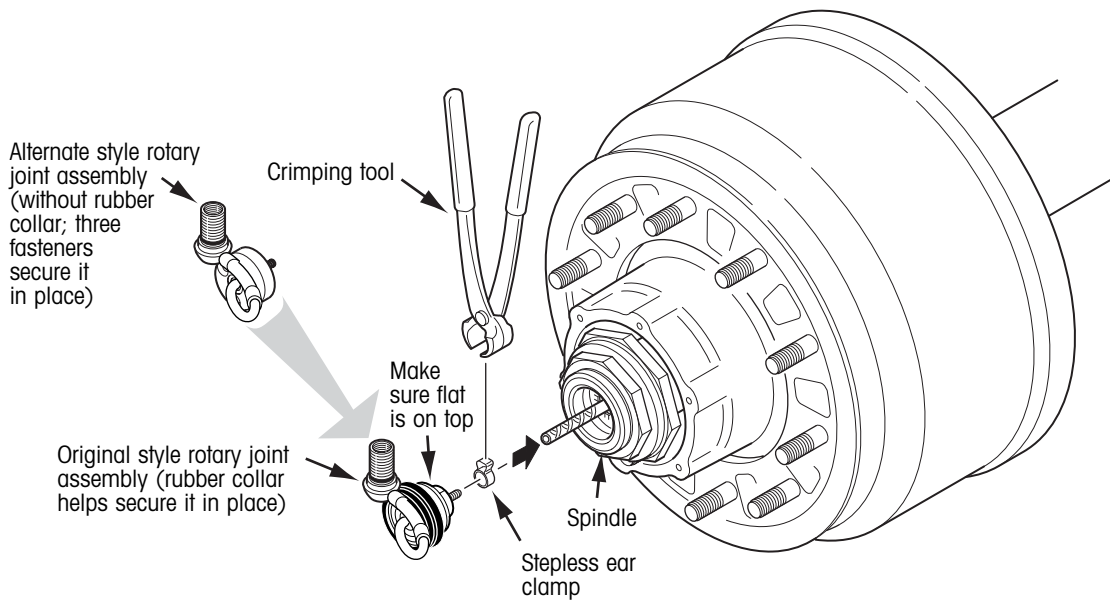

Figure 14. Rotary joint installation
1. On one end of the axle, place the stepless ear clamp onto the braided hose assembly sticking out of the spindle (figure 14).